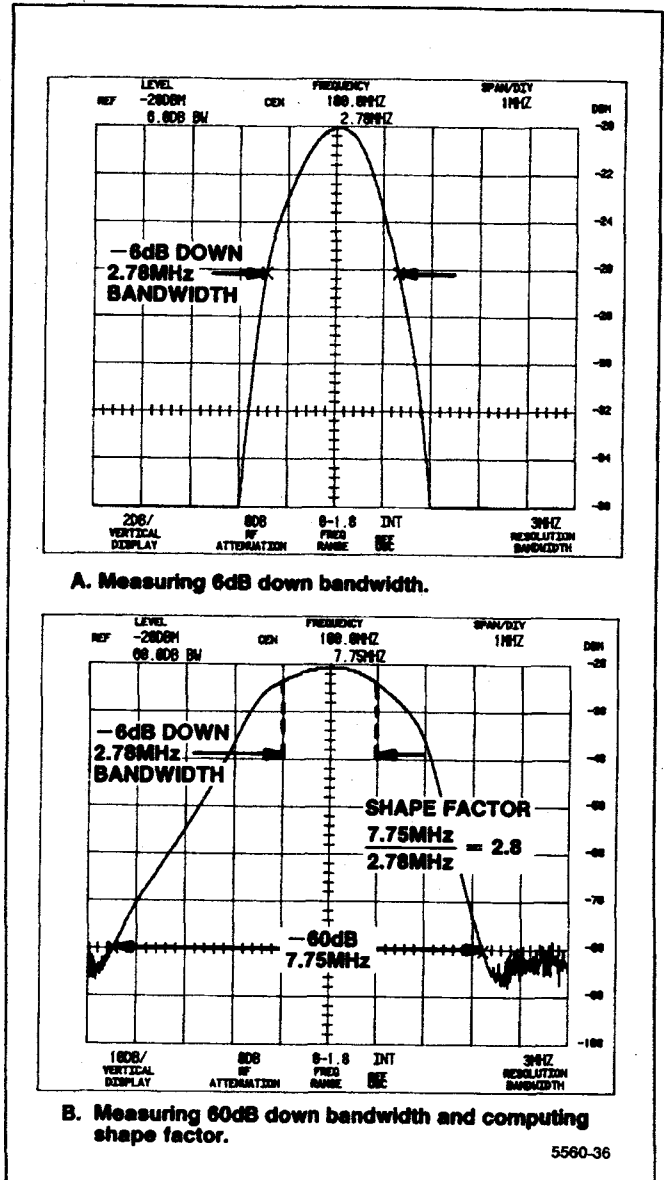

Figure 4-9. Typical display for measuring bandwidth and shape factor.
d. Check that the shape factor is 7.5:1 or less. The shape factor is the ratio of -60 dB/-6 dB bandwidths (see Figure 4-9).